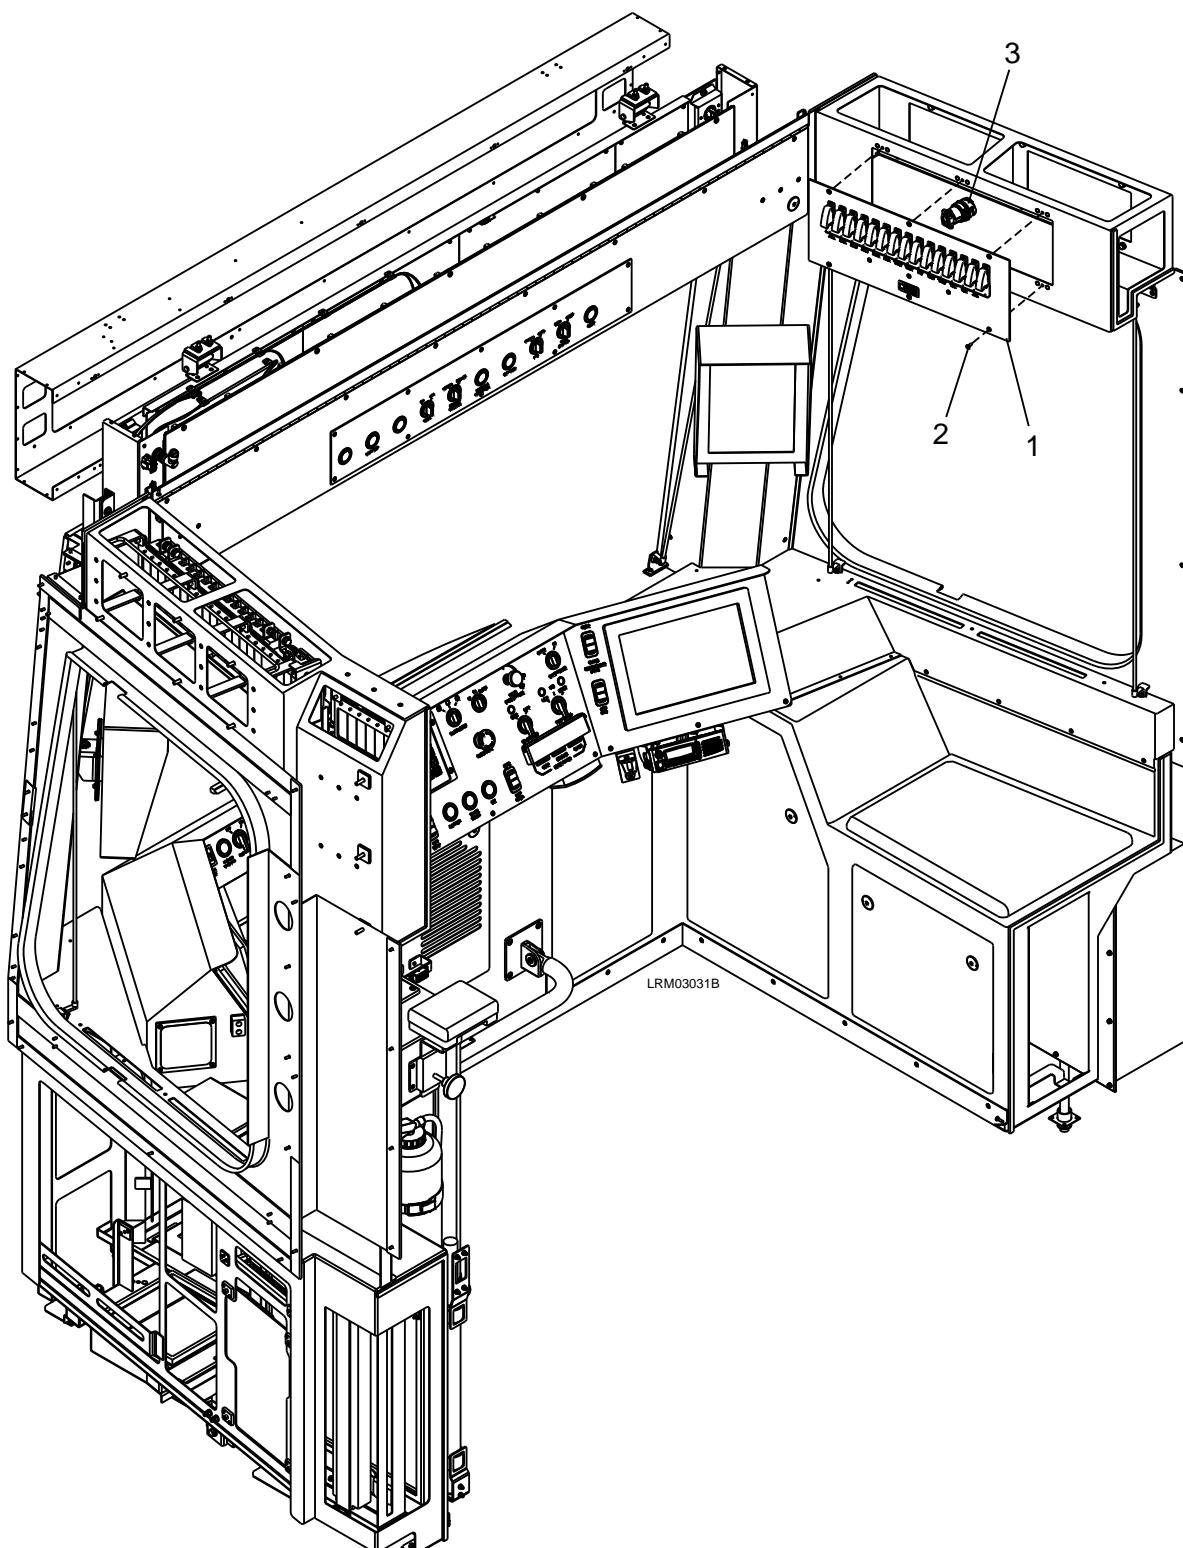

Figure 7-49: Bypass Panel
1. Remove the six M4 x 12 screws (2). See Figure 7-49.